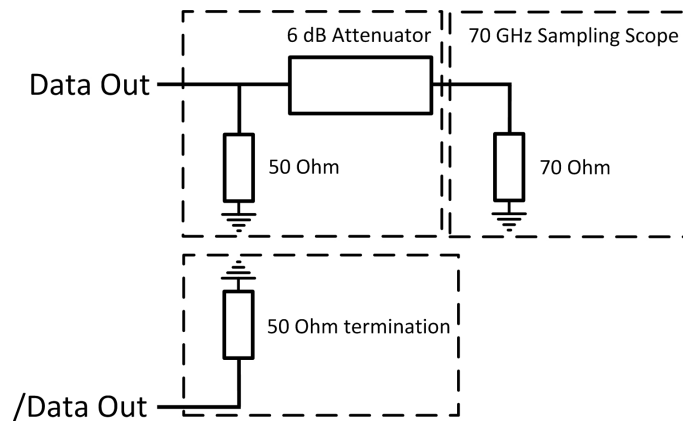

Figure 28 M8061A to scope connection
- Figure 28 on page -59 shows the proper connection from the M8061A output to a scope input (non 50 Ohm input).